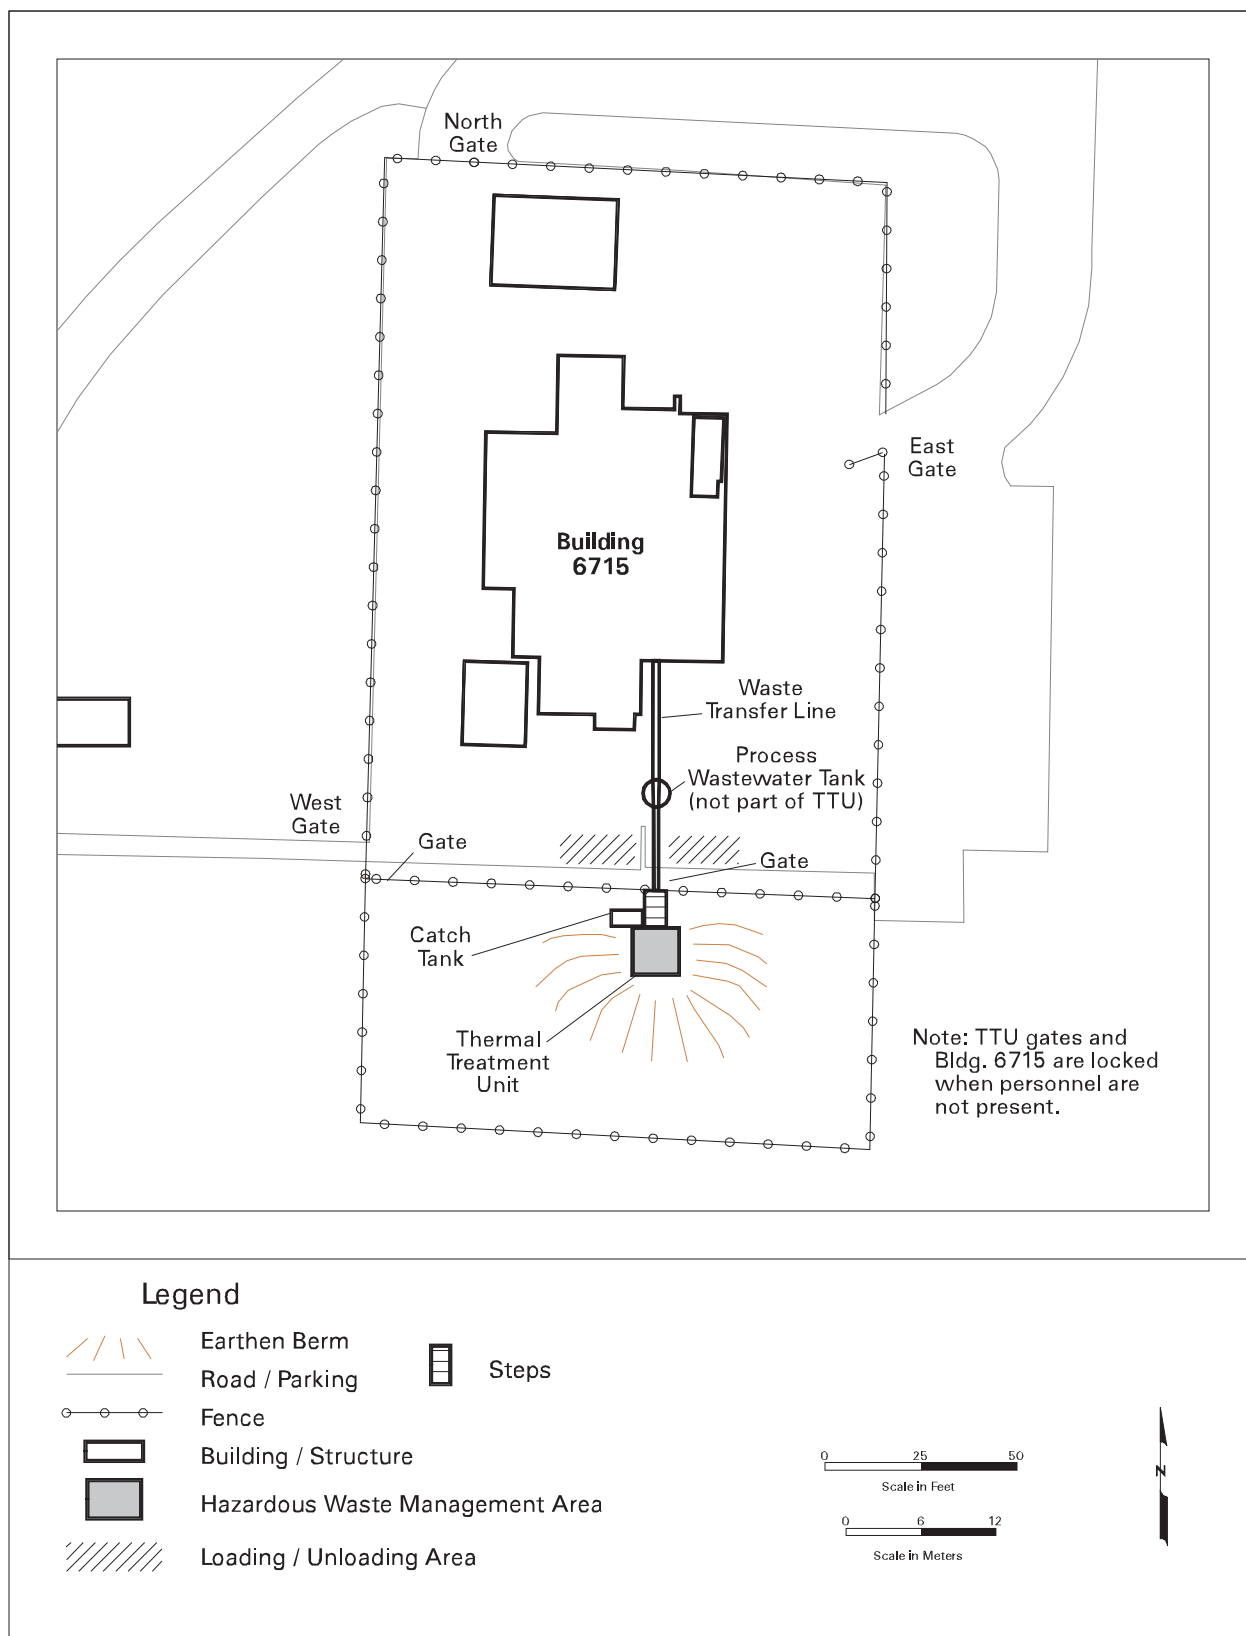

Figure 11
- Figure 11: Thermal Treatment Unit Loading/Unloading Area